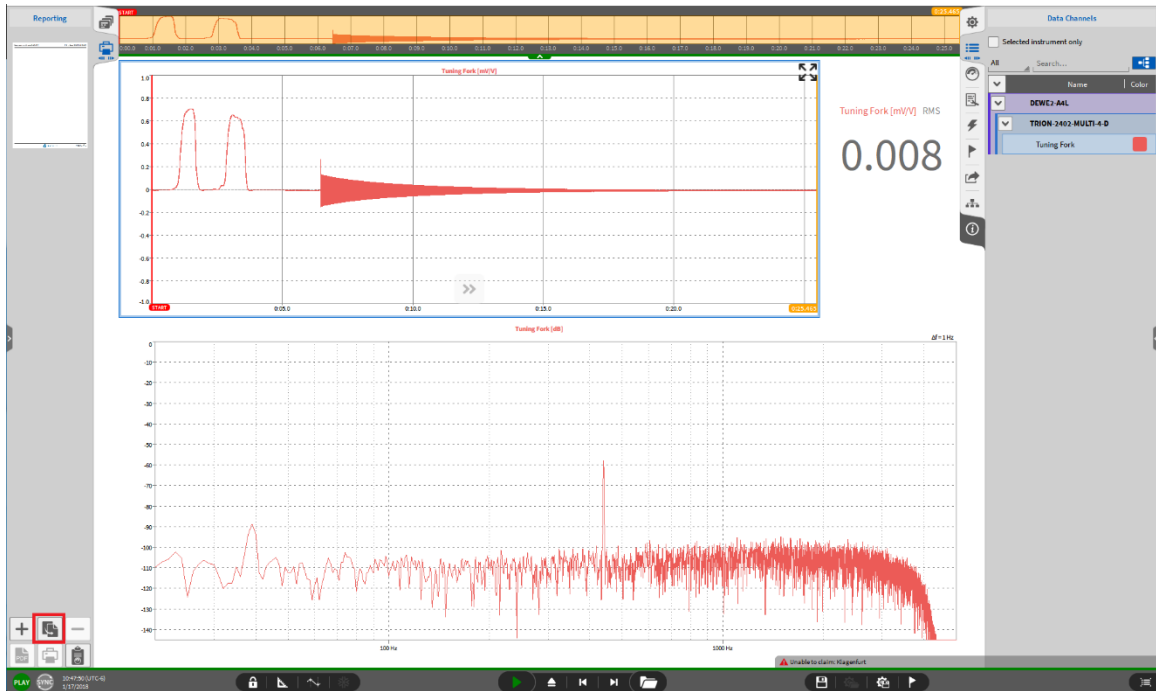

Figure 11-4: Click the Copy button
- o Click the copy button at the lower end of the Reporting menu (see Figure 11-4 or ② in Figure 11-10)